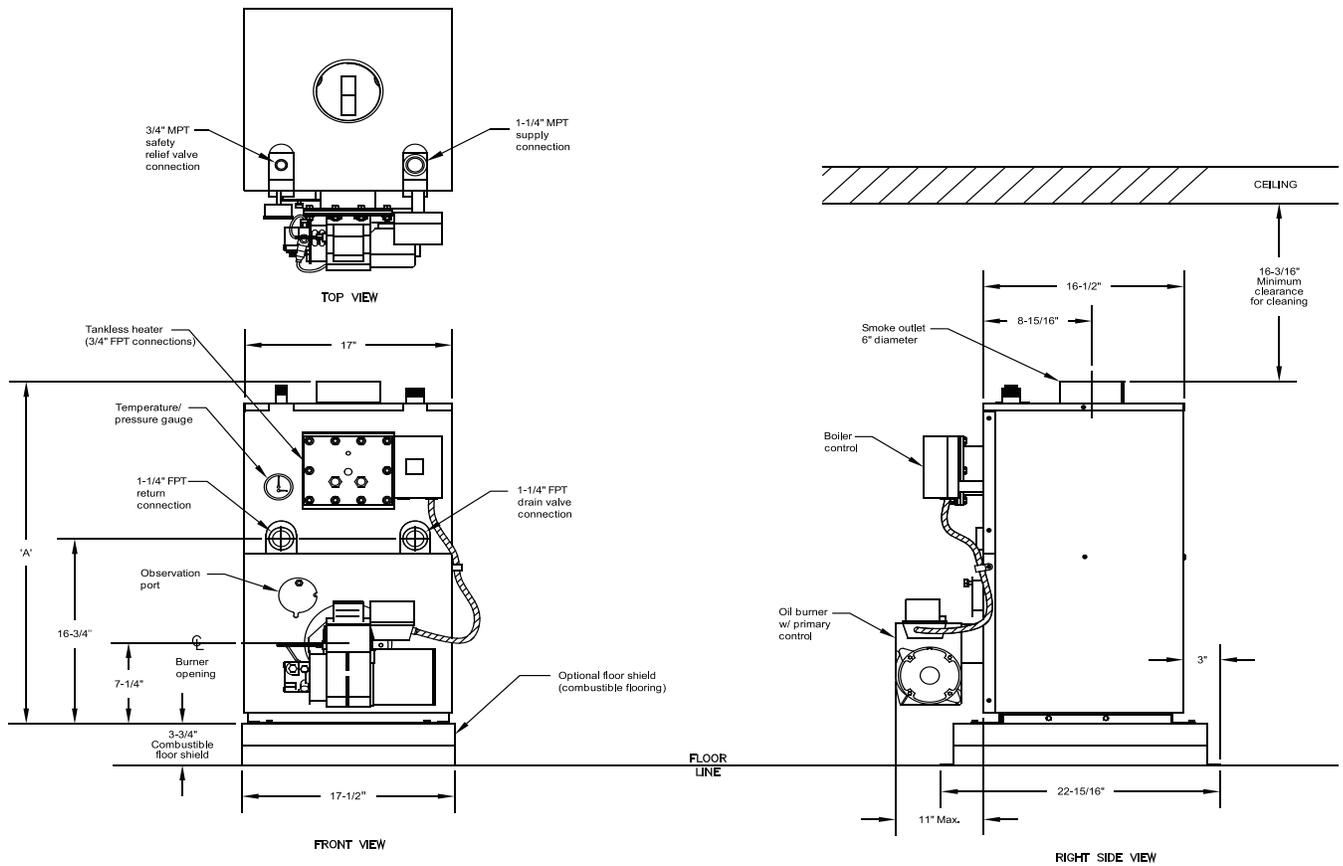

Figure 1-1: AP-U Series Boiler Dimensional Data
Table 1-2: Dimensional D (See Figure 1-1)
2. Any claims for damage or shortage in shipment must be filed immediately against the carrier by the consignee. No claims for variances from, or shortage in orders, will be allowed by the manufacturer unless presented within sixty (60) days after receipt of goods.
- B. LOCATE BOILER near final position before removing crate. See Figure 1-1. Using hand truck or pipe rollers under skid, move boiler into position along side installation site.